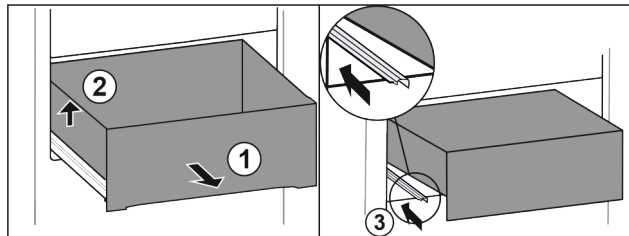

Fig. 77
▶ Pull out drawer as far as it will go. Fig. 77 (1)
▶ Lift drawer on the left. Fig. 77 (2)
▶ Insert left rail. Fig. 77 (3)